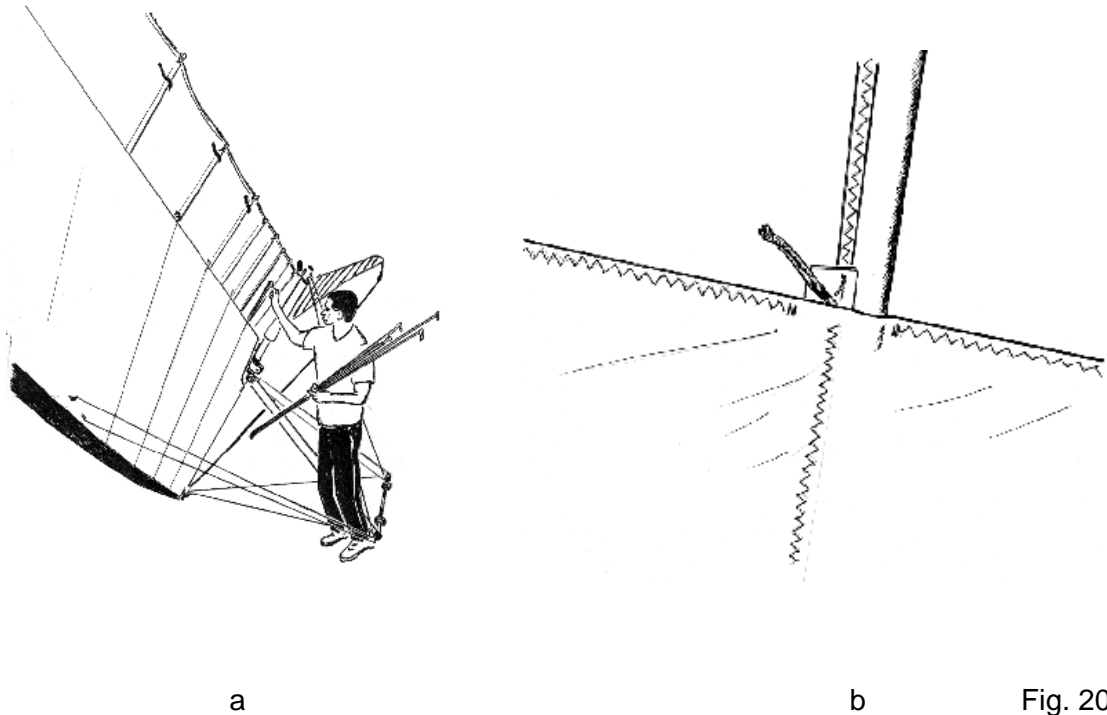

Fig. 20
2.2.14. Install the bottom surface battens. The longest bottom surface batten is inboard batten. Push the battens all way into the pocket until the rear end is secure in the batten pocket. The strings on the rear ends of the bottom surface battens are to facilitate removal of the battens from the sail during breakdown (Fig. 20).